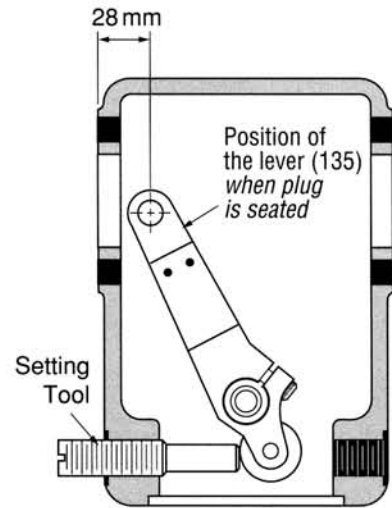

Figure 6
NOTE: Carefully place the valve lever (135) on to the splines so that its free end reaches as near as possible (this depending on the splines of the plug shaft) to the housing wall of the yoke (Figure 6 distance approximately 28 mm). The position of the plug (3) should not be allowed to change during this process.
7.3 Setting the Actuator (Figures 6, 7, 8)
Since the seat and plug are of soft materials, the lever (135) must be set so that the valve produces the required tightness. The handwheel or adjusting tool (Figure 6), can be used as an aid.